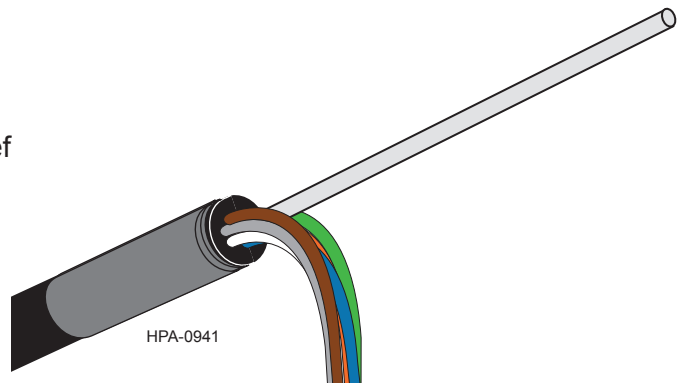

Figure 8
**Step 12:** Unwind and separate the buffer tubes from the central member. Cut the central member to the appropriate length for strain-relief in the hardware (Figure 8).
**Step 13:** For cable strain-relief hardware which clamps onto the jacket, place three layers of vinyl tape over the area where clamps make contact with the jacket (Figure 8).